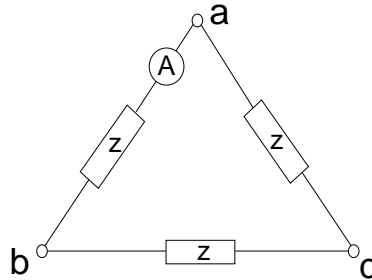

Figure 4. Delta-Connection with Embedded Ammeter.
- (a) Make sure that the supply is set for 120 V (line-to-line). Connect a $300\ \Omega$ resistor and a 0.8 H inductor in parallel for each leg of a three-phase delta-connected load of Figure 4. Figure 4 shows true a, b, and c phases.